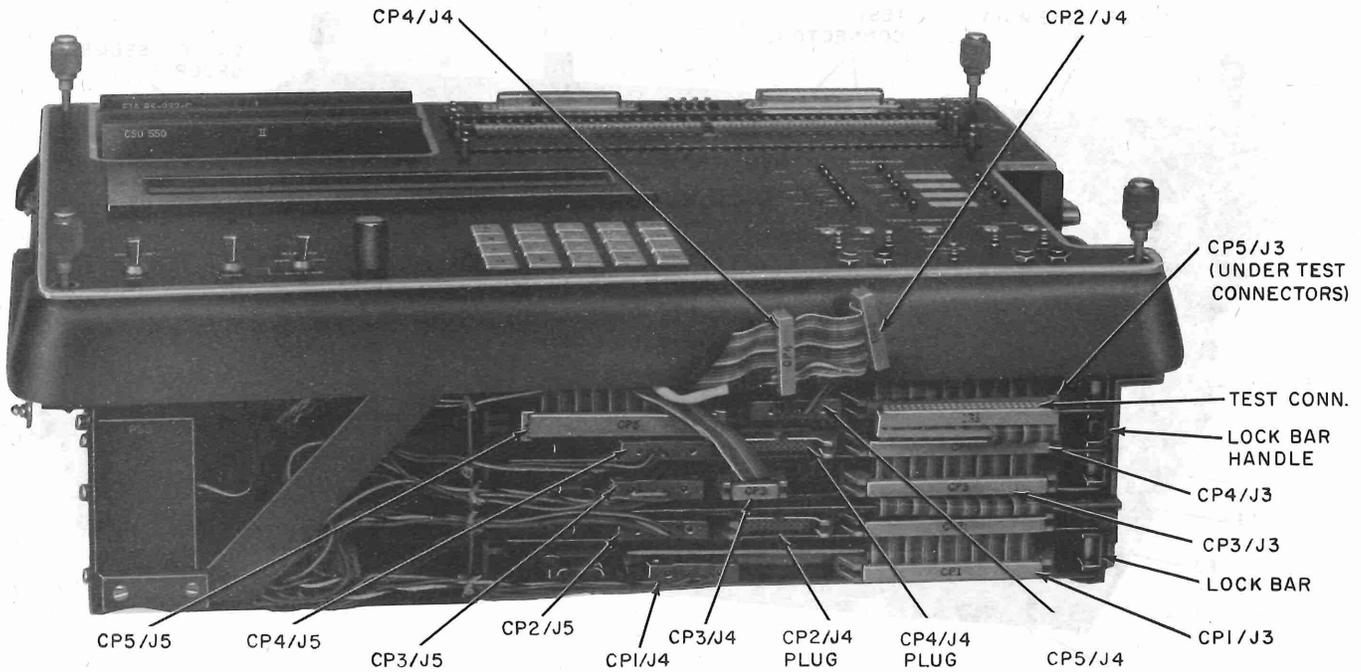

Fig. 6—921A DTS Removed From Case—Front View
- (2) Select CP to be removed and, using Table E and Fig. 6, remove front connectors.
- (3) Lift lockbar for removal of CPs 1 through 5 and pull selected CP straight out from rear.
- (3) Select the CP to be removed, and using Table E and Fig. 6, remove the front connectors.
- (4) Lift the lockbar for the removal of CPs 1 through 5 (Fig. 6) and pull the selected CP straight out from the rear.
- (1) Slide CP into test set from rear until it touches lockbar (Fig. 6).
- (2) Lift lockbar and slide CP approximately 1/4 inch further.